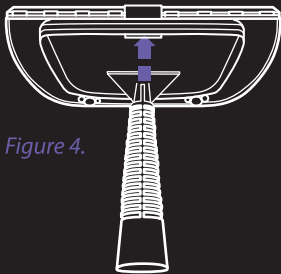

Figure 4.
1. To clean windows and doors easily, attach the window/door cleaning tool (14) to the fabric steamer tool (13).
2. First, remove towel sleeve (12) from fabric steamer tool (73) then hook and click into the window/door cleaning tool.
3. Attach the accessory to the extended connecting spray and clean your windows and doors easily with the rubber wiper (Figure 4).